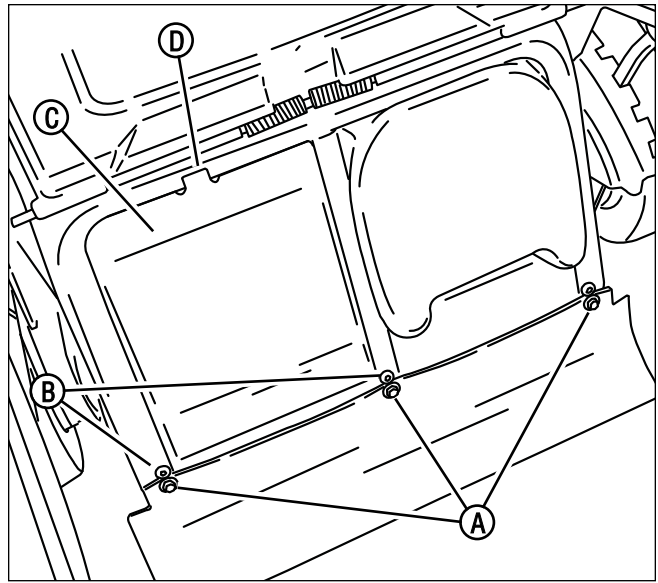

Figure 23: Removing the rear cover
1. Remove the three fasteners **(A, Figure 23)** securing the rear apron to the machine.